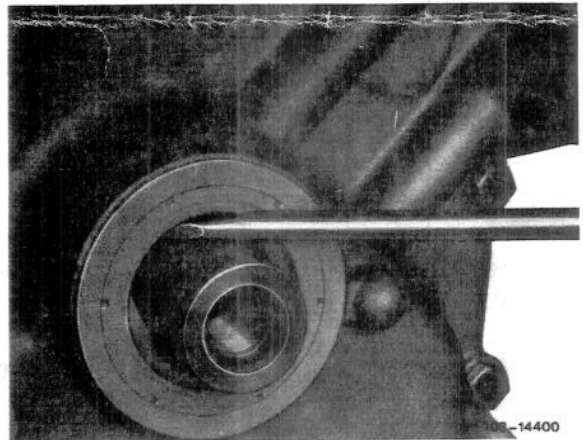

Figure 4
15. Pull out radial seal (Figure 4).